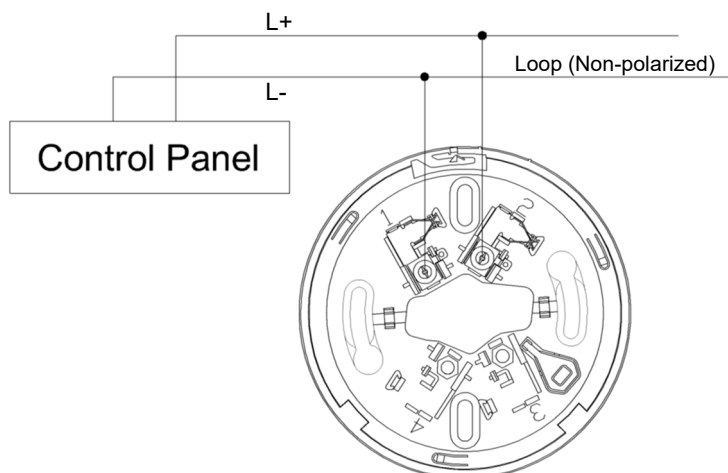

Fig.3. Loop wiring
3. Loop wiring is shown in Fig.3